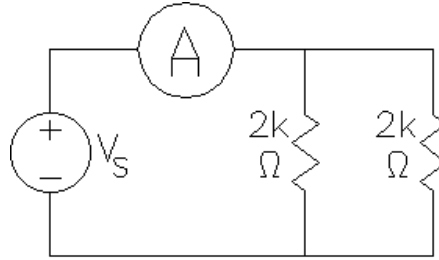

Fig. 10. Circuit with 2 resistors in series.
- Now build the circuit shown in Fig. 10 with two 2 k Ω resistors in parallel.